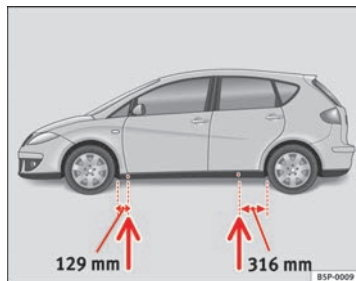

Fig. 176 Jack position points
- Locate the jacking point under the door sill closest to the wheel to be changed ⇒ Fig. 176.
Recesses at the front and rear of the door sills mark the jacking points ⇒ Fig. 176. There is only one jacking point for each wheel. Do not fit the jack anywhere else.